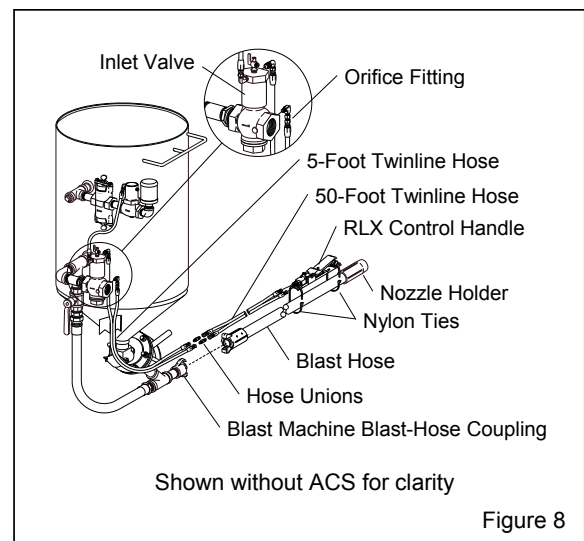

Figure 8
2.5.2 Attach the 5-ft. twinline hose to the inlet valve as shown in Figure 8; one side of the hose connects to the unused upper elbow, the other to the orifice fitting. **NOTE:** When using a pressure regulator to reduce blast pressure below 80 psi, relocate the orifice upstream of the regulator as shown in the insert in Figure 1, and plug the orifice port in the inlet valve. Doing so provides full line-pressure to the pneumatic control circuit.